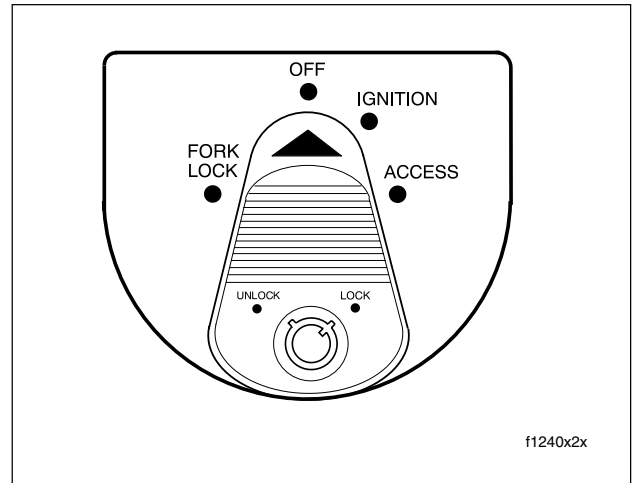

Figure 2-2. Ignition Switch (FLTR, FLHT/C/U)
- See Figure 2-2. “Key ON” means that the ignition key is turned to ON and the engine stop switch is set to RUN (although the engine is **not** running).